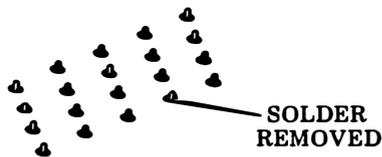

Fig. 25—Connector Pins
- (b) Remove solder from around connector pins of cable to be removed (Fig. 25).